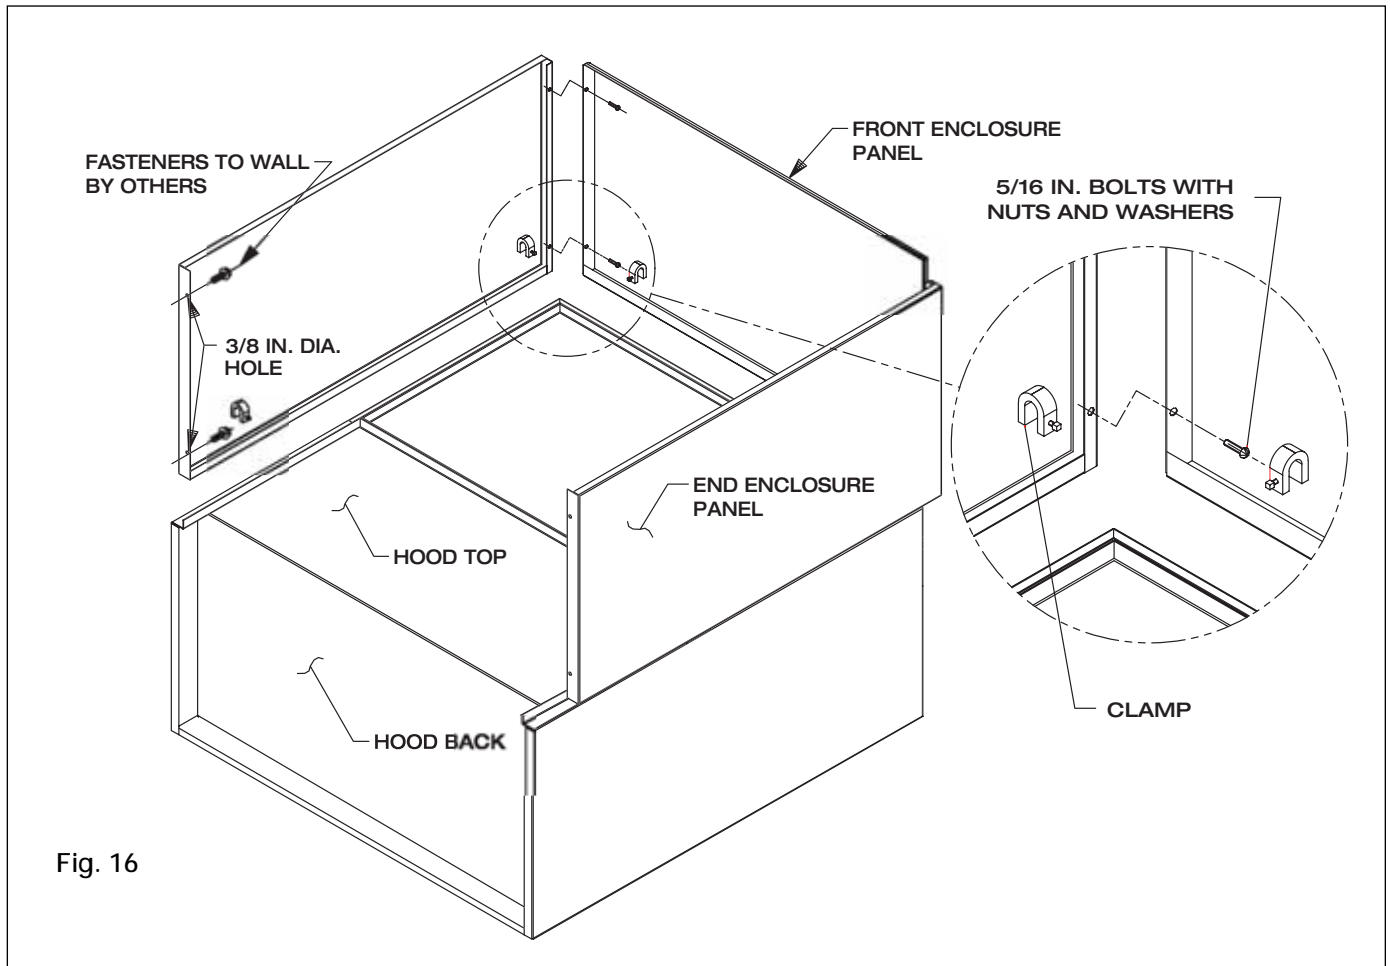

Fig. 16
1. Position the end enclosure panels on the hood, and clamp into place with clamps provided or tack weld the panels into place (see Fig 16).